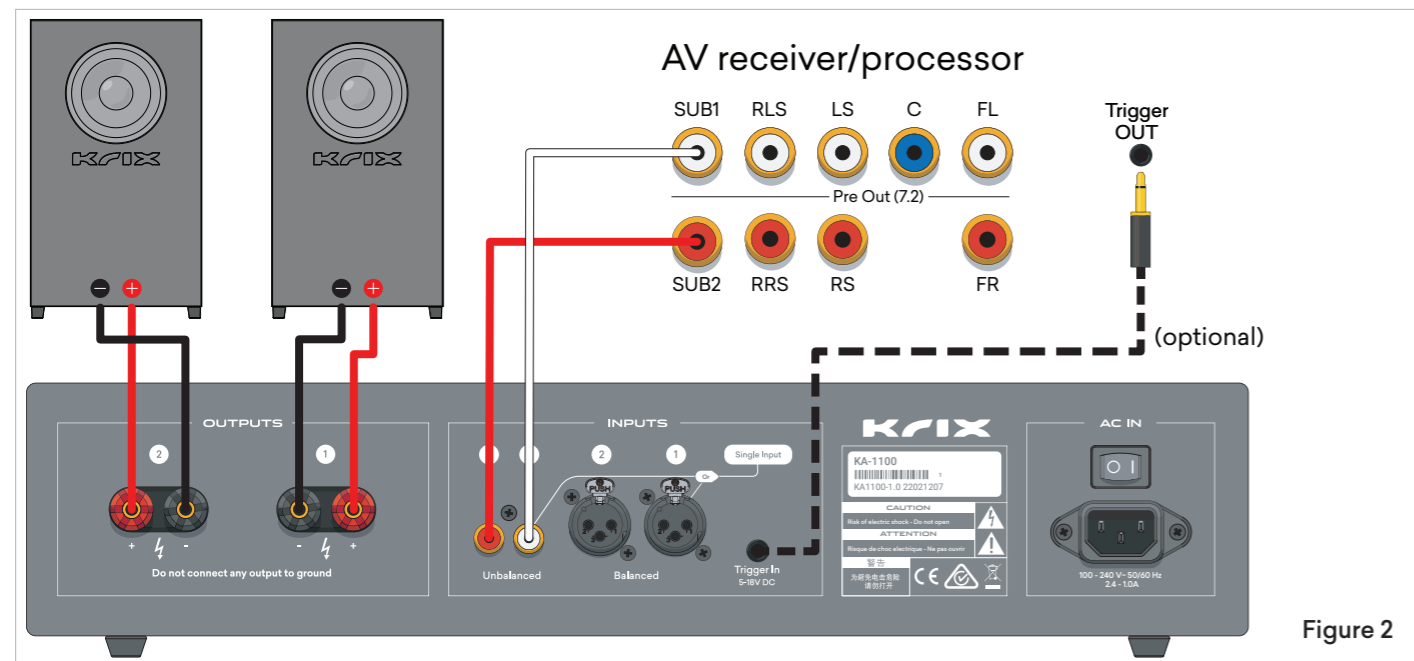
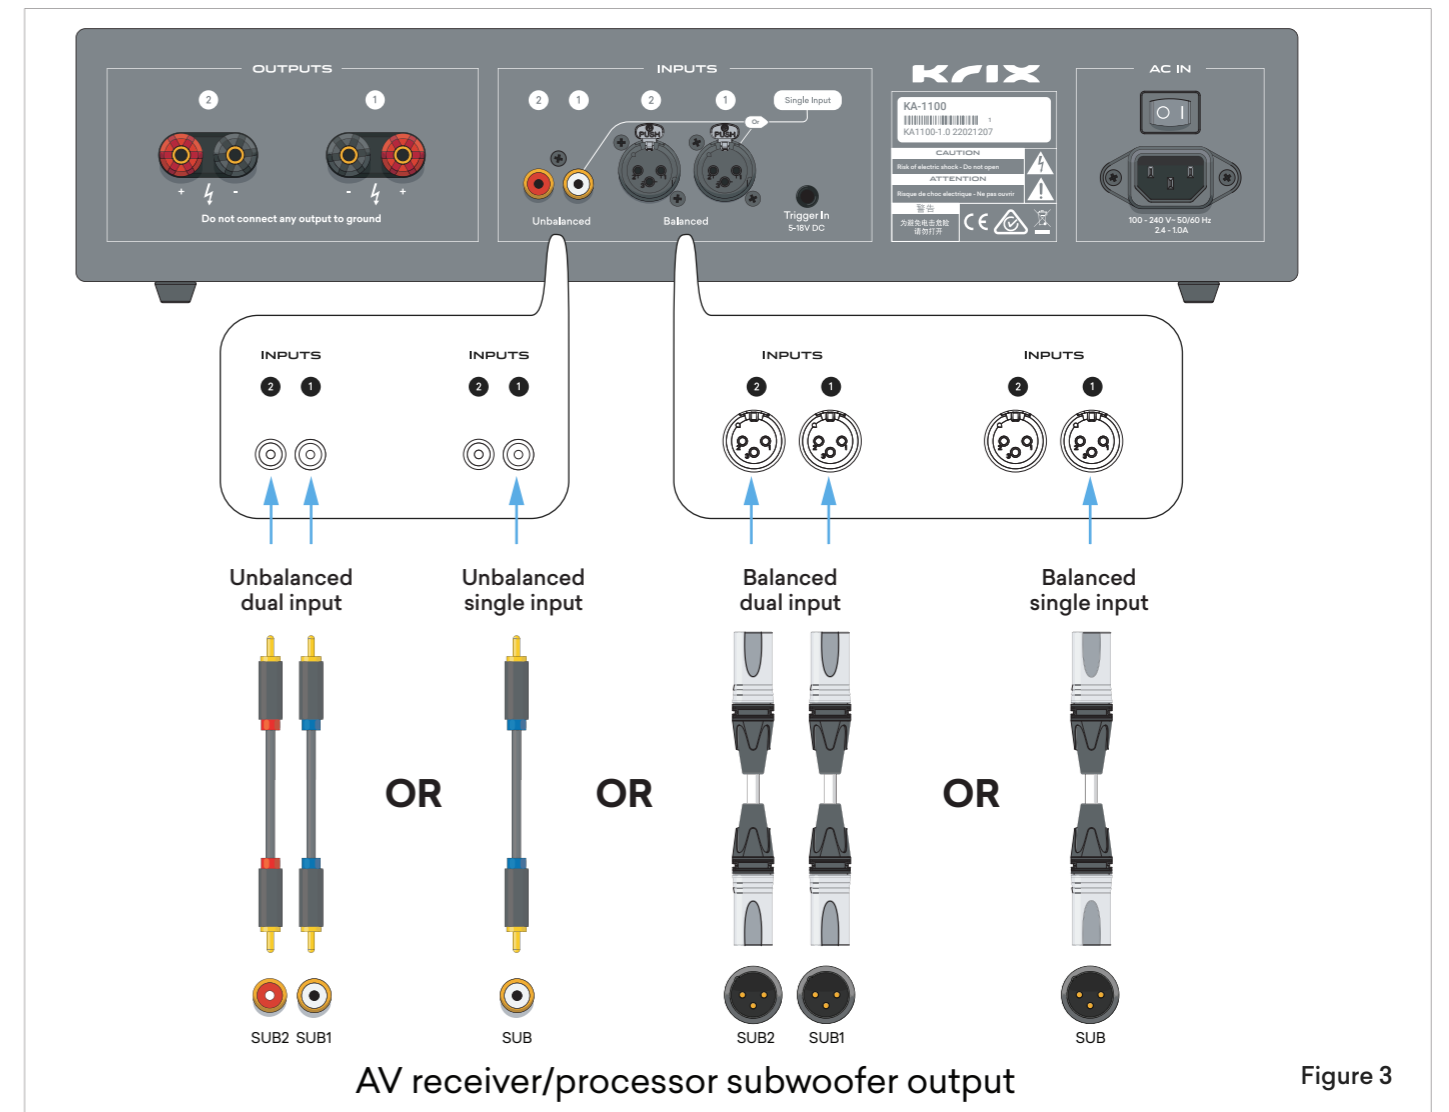

Figure 2
Figure 3
Connect the subwoofer(s) to the amplifier using speaker cable. Prepare the speaker cables by neatly stripping cable ends. Care should be taken to eliminate loose strands of wire that may present a short circuit hazard. Take care to assign the same cable colour or trace from the positive (+) connector on the amplifier to the positive (+) connector on the subwoofer (figure 2).
Connect the subwoofer pre-outs 1 and 2 on your AV receiver/processor to the respective inputs 1 and 2 on your KA-1100 subwoofer amplifier (figure 2). Most AV receivers support RCA (unbalanced) connections. Some AV processors support XLR (balanced) connections (figure 3). If your AV receiver has only one subwoofer pre-out, connect to input 1 (figure 3 single input).
E. Single input mode is useful when you have a mono signal on channel 1 that needs to be sent to both channel outputs, such as a single subwoofer output from your receiver that needs to be routed to two subwoofers eg. Krix MX-5 and MX-10 systems (see figure 3 single input, page 4). When single input mode is active you must use input 1 only (input 2 is unused). Both volume and low pass controls remain independent for each output in single input mode.
H. Output terminals for connecting to subwoofer. Connect the positive (red) to positive, and negative (black) to negative on your subwoofers (see figure 2 on page 3).